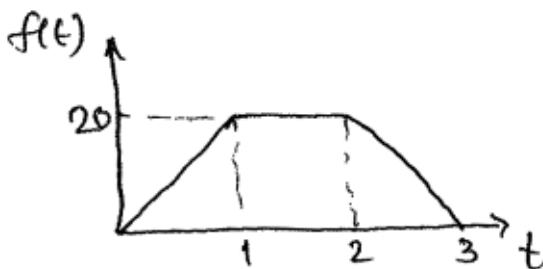

Fig.6b
b) Find the Laplace transform of the given function. (Ref. fig.6b).